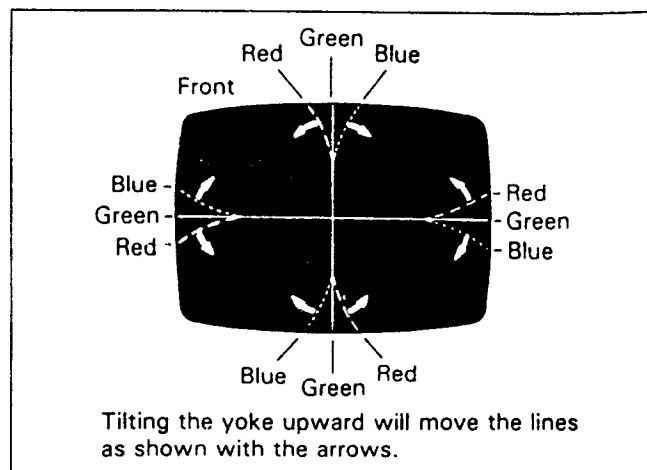
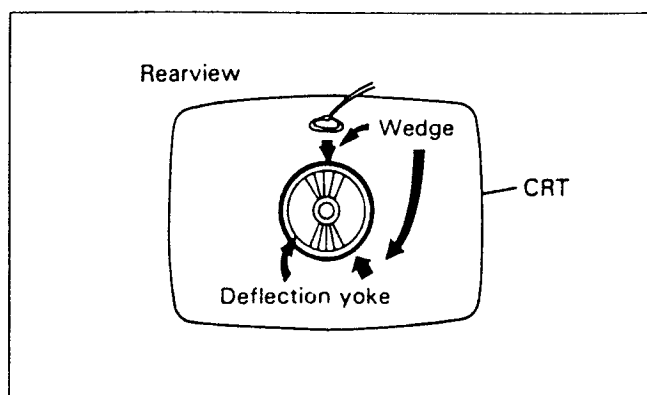

Fig. 6-6
Fig. 6-7
3. Adjust convergence roughly in the corner by tilting the deflection yoke vertically or horizontally, then insert a wedge between the yoke and CRT on top. (Fig. 6-7)
2. Adjust convergence as shown in Fig. 6-6 by tilting the yoke up and down, then insert the wedges on top and bottom. (Fig. 6-7)
3. Apply (modeler's) glue on the wedges and magnets to fix. (Fig. 6-7)